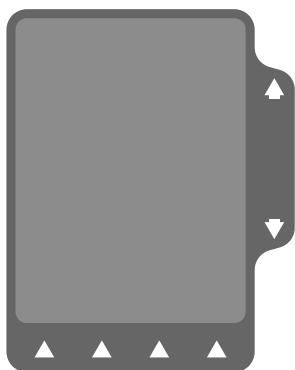

Figure 3-5 All Dark Screen
- c. The entire Main Display becomes dark (Figure 3-5).